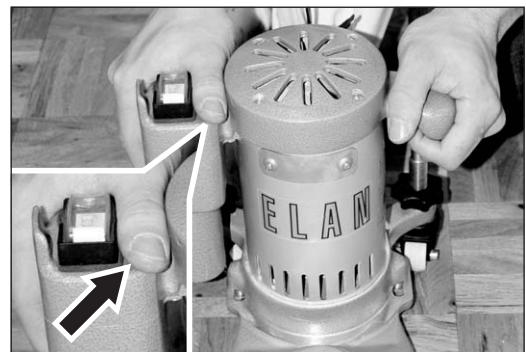

Fig. 13 Guide the ELAN with both hands. **Do not touch the switch button while sanding!**
- Do not touch the switch button while sanding (fig. 13)! Otherwise the wear of the switch increases significantly!